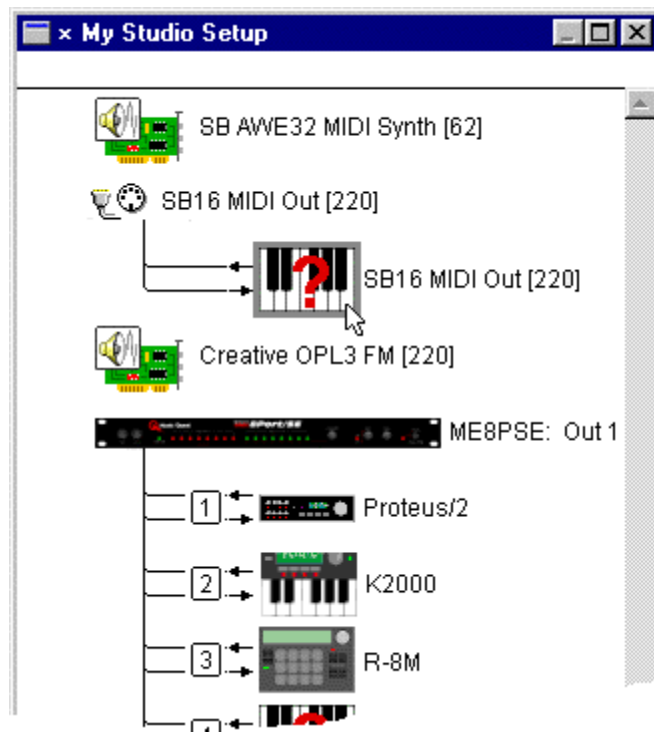

Figure 13: Selecting an Unused MIDI Device
- ① Click a MIDI device to select it (highlighting it as shown in Figure 13).